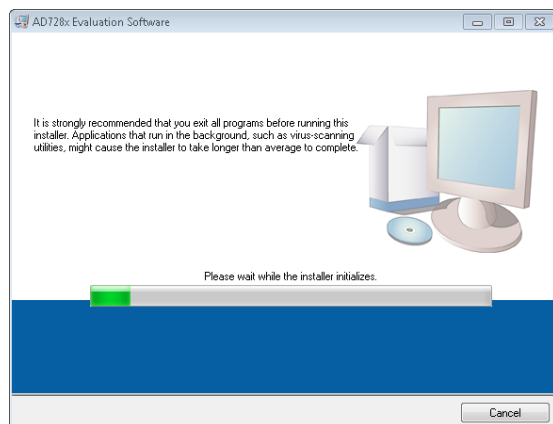

Figure 6. First Step of the Software Installation
3. With the board disconnected from the PC, right click on **Setup.exe**, select **Run as Administrator** from the pop-up window, and follow the on screen instructions. On a Windows® 7 operating system, a dialog box appears as shown in Figure 6.